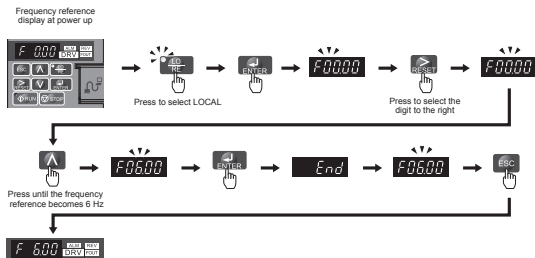

Figure 4.4 Setting the Frequency Reference while in Drive Mode
**Figure 4.4** illustrates changing the default frequency reference of F 0.00 (0 Hz) to F 6.00 (6 Hz) while in Drive Mode. This example assumes the drive is set to LOCAL.